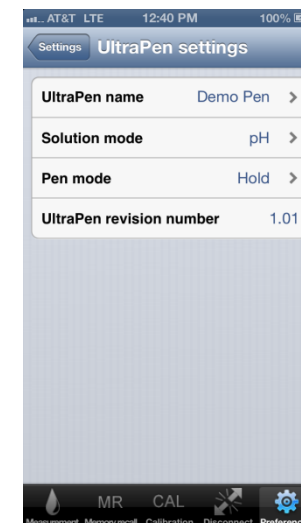

Figure 8
- **ULTRAPEN SETTINGS** (See Figure 8): This section contains:
- The App screen will display the ULTRAPEN Settings screen (See Figure 8).